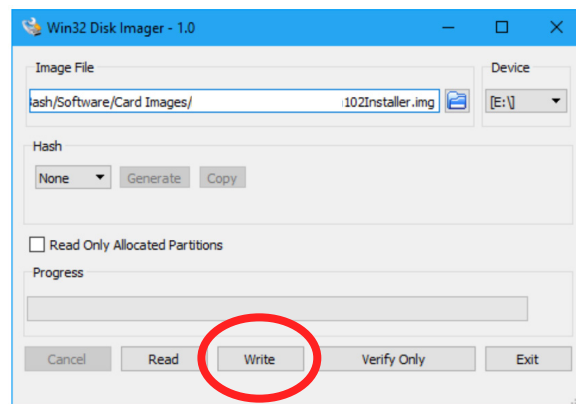

Figure 4-4. Win32 Disk Imager - Write to microSD card.
8) Click the 'Write' button (figure 4-4) to begin writing the image file to the microSD card. The process will take approximately 10 minutes.